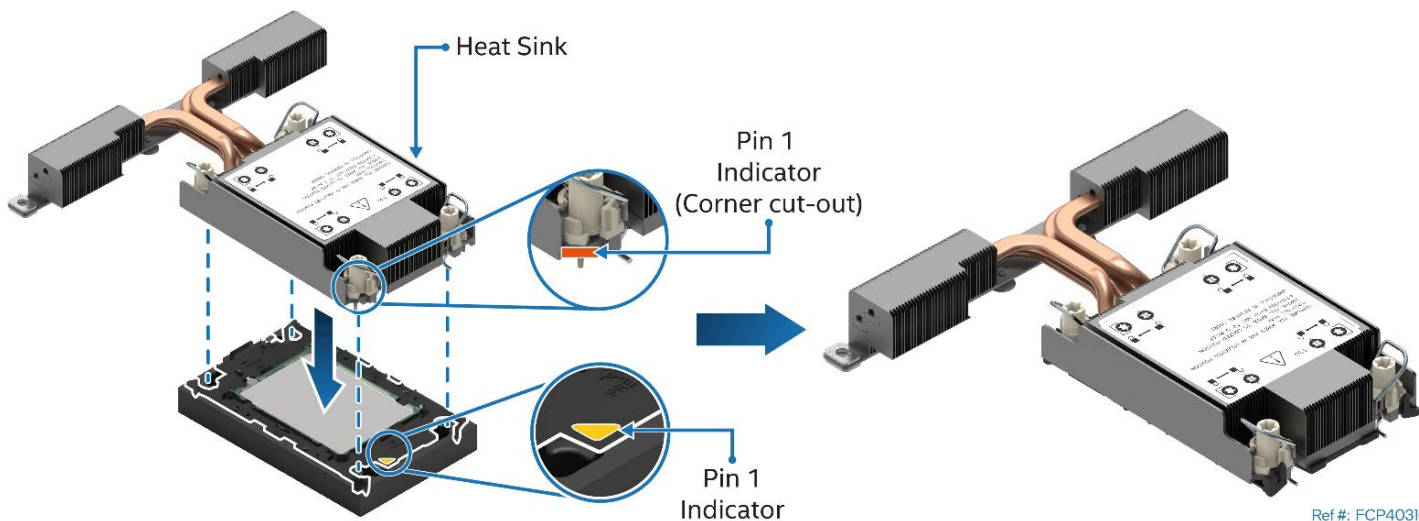

Figure 16. Pin 1 Indicator of Processor Carrier Clip
- Align Pin 1 indicator of processor carrier clip with the corner cut-out on the heat sink. For the EVAC heat sink, align the processor carrier clip and the heat sink as shown in Figure 16.